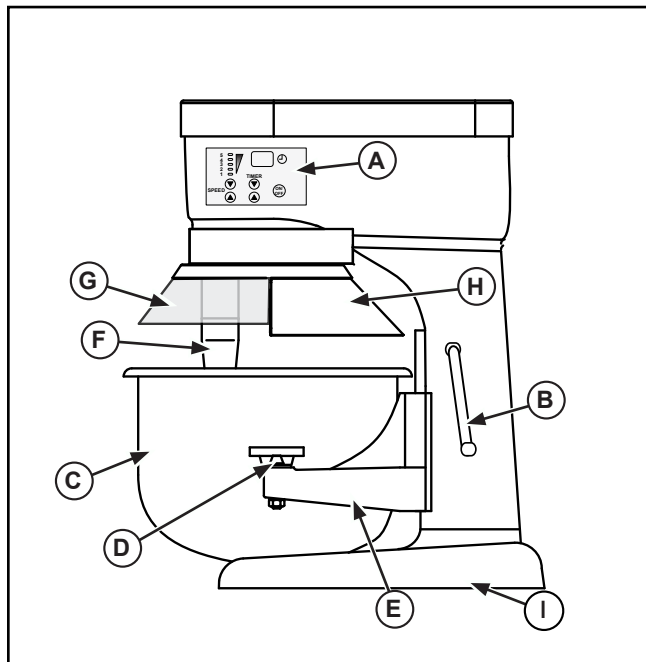

Figure 1. 10 Quart. Mixer, Features and Controls.
2. Before attaching the bowl select the mixing attachment you will be using. Place your selected mixing attachment inside the empty bowl (C). Do not attempt to fit the mixing attachment onto the mixing shaft (F) before the bowl is in position. See Figures 1, 2, 3 or 4.
3. Lower the bowl cradle to its lowest position by rotating the bowl lift (B) in a clockwise direction.
4. Rotate the bowl clamp levers (D) to the out or back position.
5. Hold the bowl (C) so that the pin on the bowl is facing in towards the mixer. Position the bowl so that the pin is lined up with the pin slot on the bowl cradle (E). Slide the pin into the slot.
6. Align the holes on the bowl tabs with the pins on the bowl cradle (E). Set the bowl (C) on the bowl cradle (E).
7. Rotate the bowl clamp levers (D) to the front over the bowl tabs to secure the bowl (C) onto the bowl cradle (E).
8. Install the attachment to the mixing shaft (F). Ailing the groove on the attachment with the pin on the mixing shaft. Push the attachment up and rotate to lock onto the pin.
9. Raise the bowl (C) to its maximum height using the bowl lift (B) by rotating in a counter clockwise direction until it snaps into place.
1. Close the bowl guard (G). See Figure 1. The safety guard must be closed for the mixer to operate. If the safety guard is open or not closed properly then the mixer will not operate.